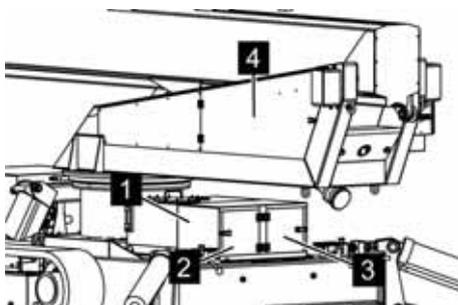

Fig. 120: Shuttle valves door
2. ➤ Open the doors (Fig. 120/2 and 3) or completely remove the cover (Fig. 120/1).
3. ➤ Open the door (Fig. 120/4).